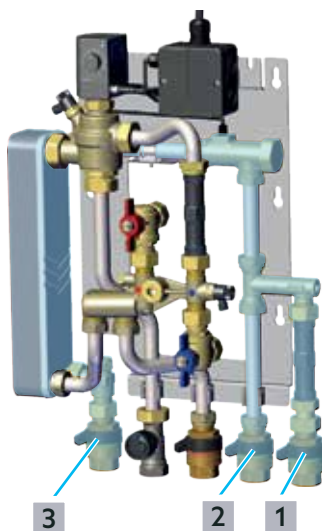

Fig. 15: Filling the potable water circuit
- 1 Slowly open the ceramic disc valve in the cold water inlet ((1) in Fig. 15 on page 22) to fill the dwelling station.
- 2 Slowly open the ceramic disc valve in the hot water outlet (3).
- 3 Slowly open the ceramic disc valve in the cold water outlet (2).